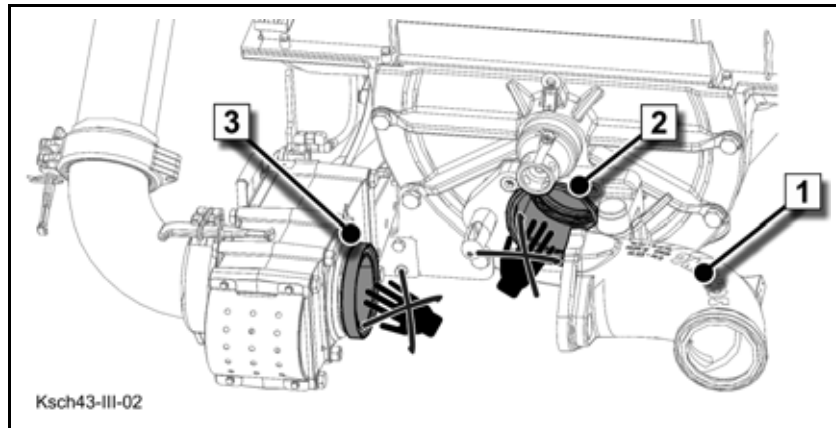

Fig. 474
If the "outlet" (1) (Fig. 474) is folded up, the chamber valve (3) and the rock valve (2) can be accessed.